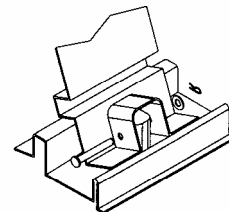

Fig. 3
10. Insert a washer on the end of the hitch pin. (fig. 3)